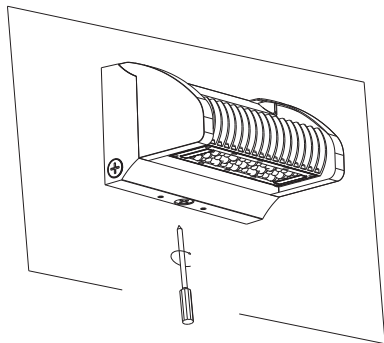

Figure 1-5
5. Fix the luminaire on the bracket and tighten screws on the bottom. (Figure 1-5)